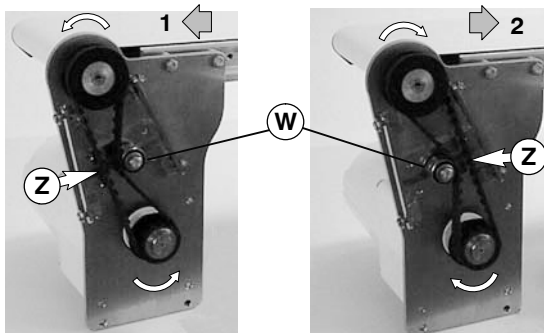

Figure 5
4. Depending on conveyor belt travel (direction 1 or 2), locate timing belt tensioner (W of Figure 5) as shown. Do not tighten tensioner screw.
8. Tension timing belt to obtain 0.125" (3 mm) deflection for 1.0 lb (456 grams) of force at timing belt mid-point (Z of Figure 5). Tighten tensioner screw to 92 in-lb (10.4 Nm).